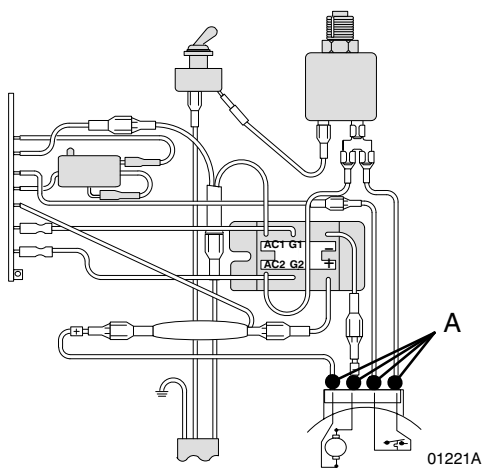
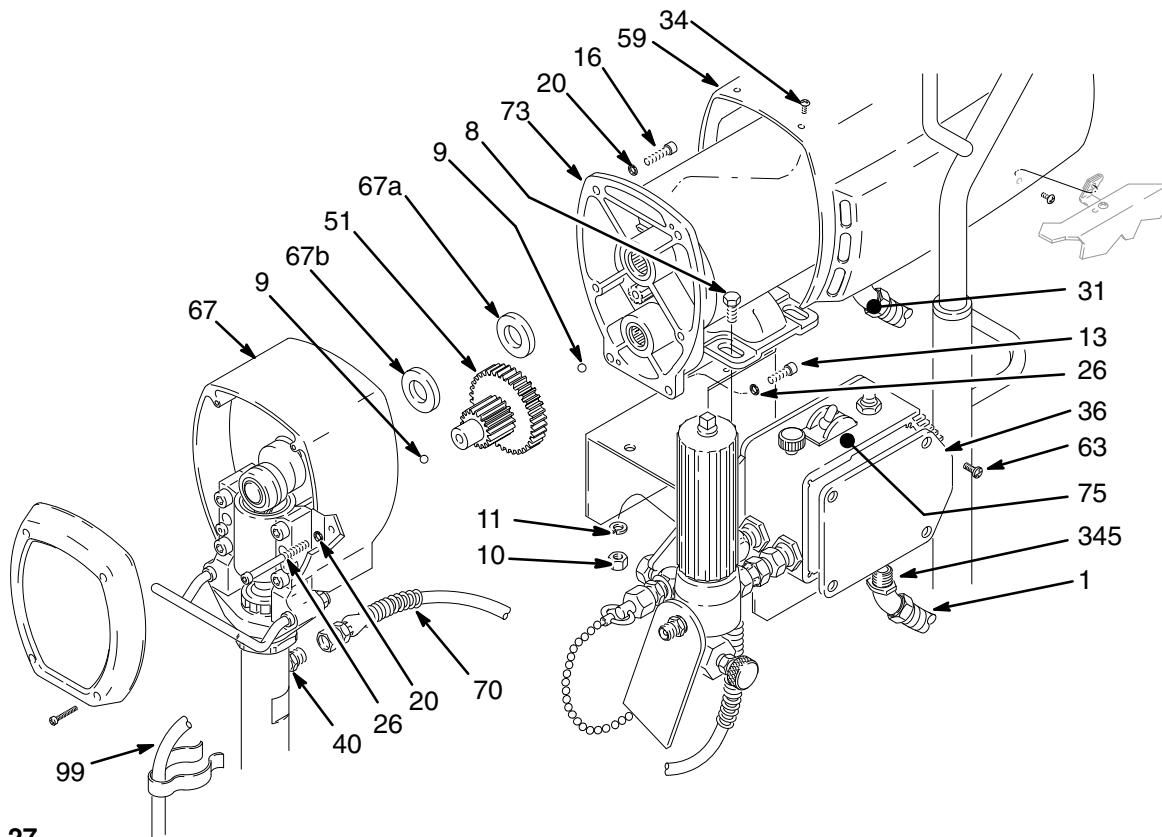

Fig. 25
Fig. 27
**NOTE:** Refer to Fig. 27 for this procedure, except where noted otherwise.
2. Remove the shield (59).
3. Remove the cover (63) from the pressure control. Disconnect the four motor leads (A). See Fig. 25.